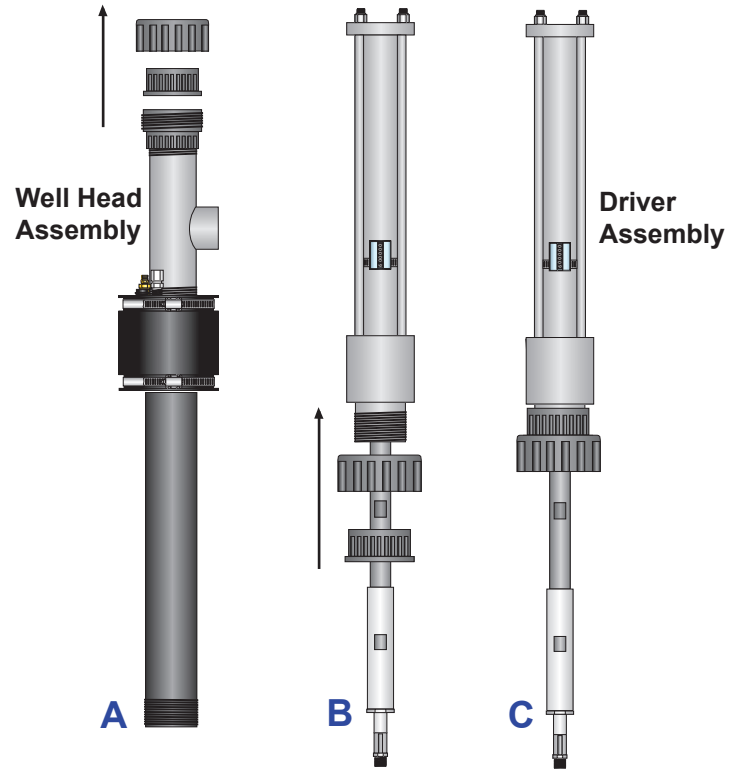

Figure 6
1. Unscrew top half (with collar) of 2" union from wellhead assembly (**Figure 6 A**) and screw it onto driver assembly (**Figure 6 B & C**), using Teflon tape.